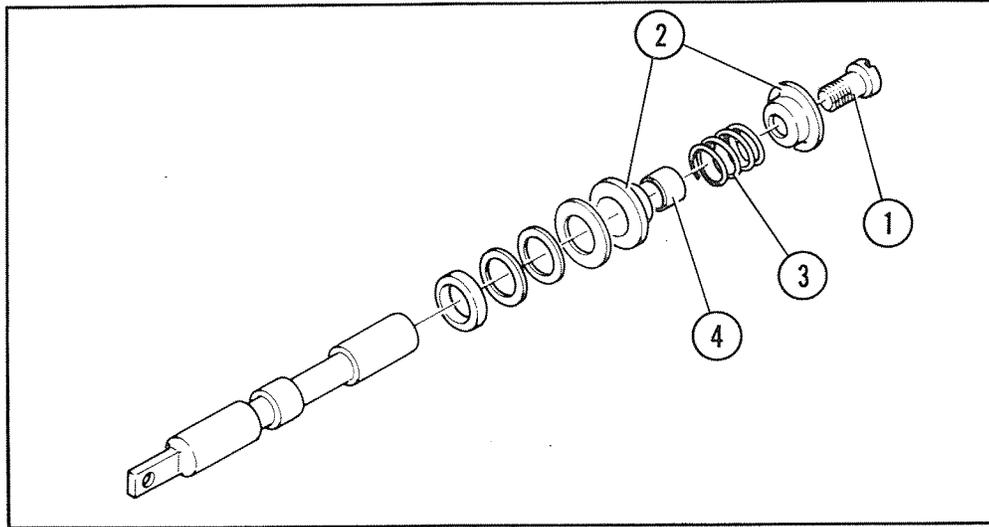

Figure 11
7. Remove the screw (1), and remove the spring seat (2), spring (3) and collar (1), Figure 11.